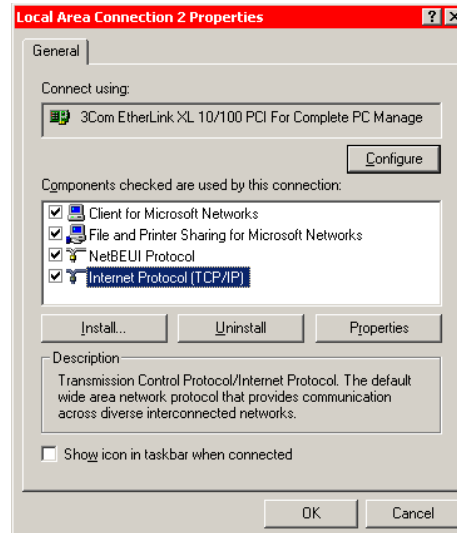

Figure 6.1 - Local Area Connection Properties
- 4.3 Right-click on the new adapter and select **Properties**. A new dialog box will appear (see Figure 6.1).